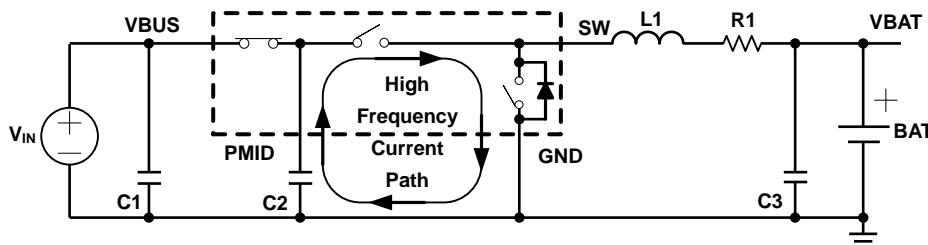

Figure 38. high frequency current path
1. To obtain optimal performance, the power input capacitors, connected from input to GND, should be placed as close as possible to the pin. The output inductor should be placed close to the IC and the output capacitor connected between the inductor and GND of the IC. The intent is to minimize the current path loop area from the SW pin through the LC filter and back to the GND pin. To prevent high frequency oscillation problems, proper layout to minimize high frequency current path loop is critical. (See Figure 38.) The sense resistor should be adjacent to the junction of the inductor and output capacitor. Route the sense leads connected across the RSNS back to the IC, close to each other (minimize loop area) or on top of each other on adjacent layers (do not route the sense leads through a high-current path). (See Figure 39.)